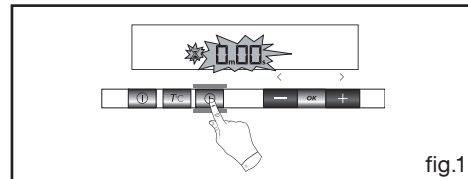

fig.1
- Press the  touch control 3 times (fig.1).